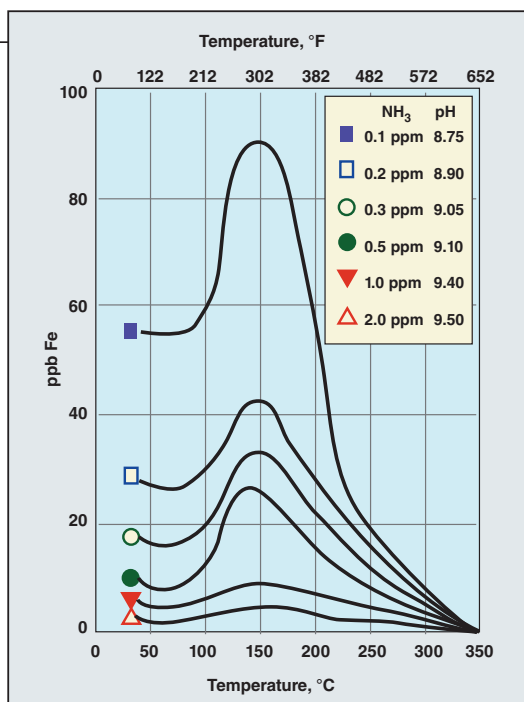

FIGURE 3. The dissolution of the carbon-steel matrix is a function of pH and temperature [1]
As Figure 3 illustrates, corrosion
When researchers developed AVT(O), they took into account the pH effect on carbon-steel dissolution, as previously illustrated in Figure 3. AVT(O) guidelines evolved to the following parameters: